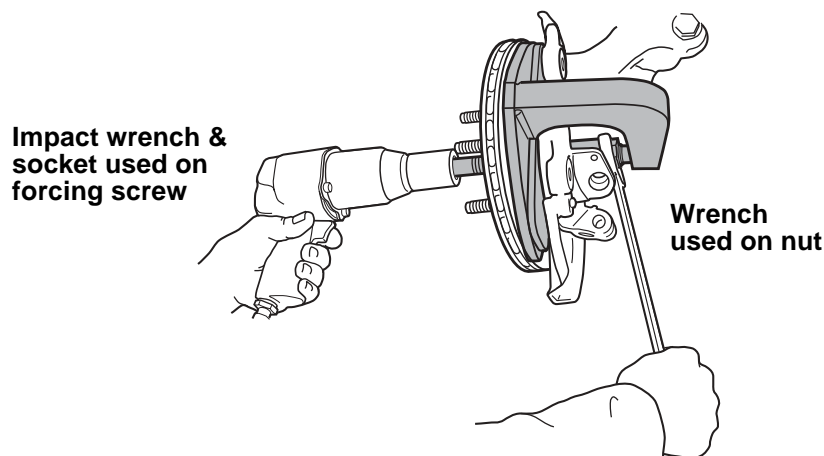

Figure 6
7. Hand tighten the nut on the end of the forcing screw. Check the alignment of the setup—the yoke assembly must be at a 90° angle to the knuckle. See Figure 6. Verify the HubTamer will be pushing on the knuckle casting, NOT the dust shield.
- Using a 1-1/8" wrench on the nut, and a 1-1/16" socket with impact wrench on the head of the forcing screw, tighten the forcing screw into the nut to draw the hub out of the knuckle. See Figure 6.